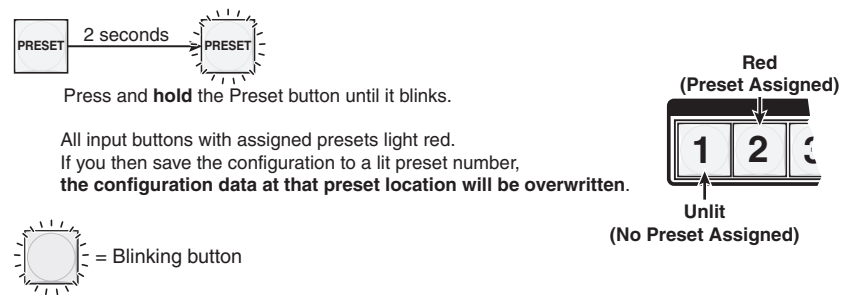

Figure 3-41 — Enter Save Preset mode
2. Press and **hold** the Preset button for approximately 2 seconds until it blinks (figure 3-41).